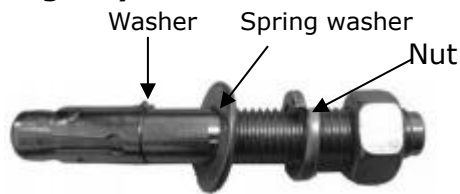

Fig. 38
1. Prepare the anchor bolts (See Fig. 38).